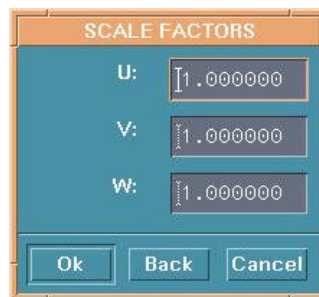

Figure 6.1.8 Scale Factor
- Enter the desired scale factors in the fields in the SCALE FACTOR dialog window. See Figure 6.1.8.